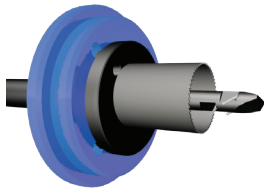

Figure 11
2.3.10) Attach 6" or 8" centering ring to the top of the saw mandrel flange using 5/16"-18 x 1.25" bolts through to top of the centering ring. Ensure wider portion of the centering ring is positioned away from mandrel plate / cutter assembly (see Figure 11).